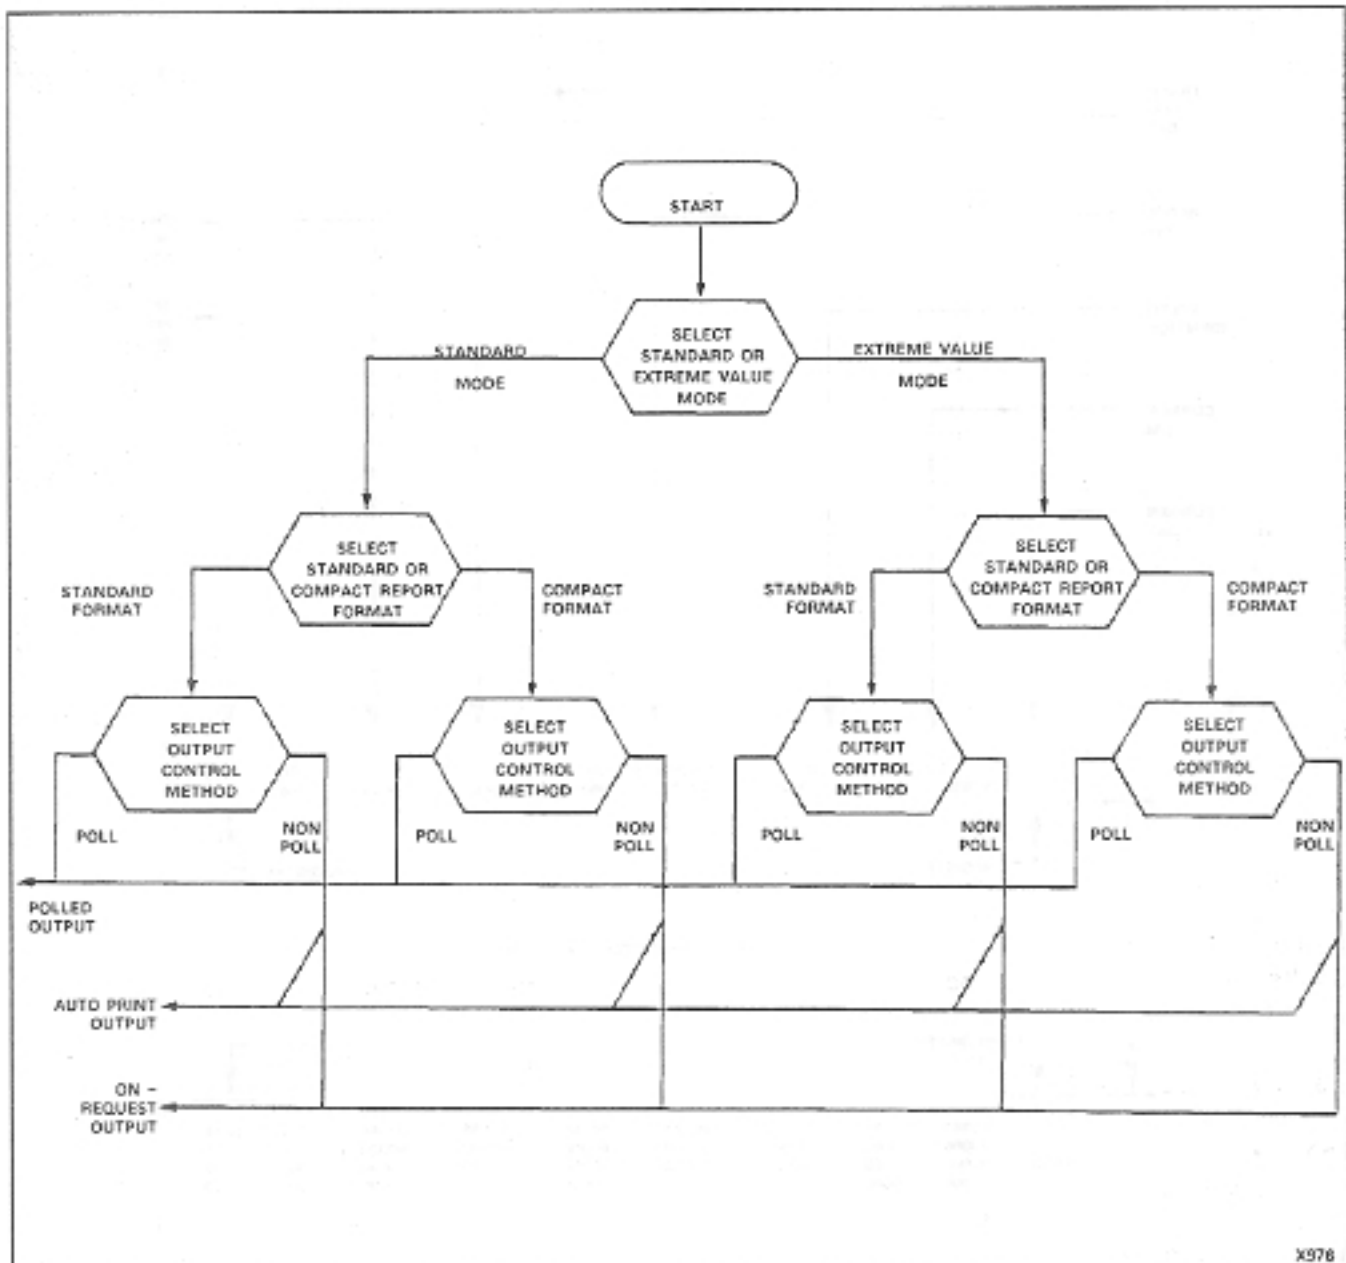
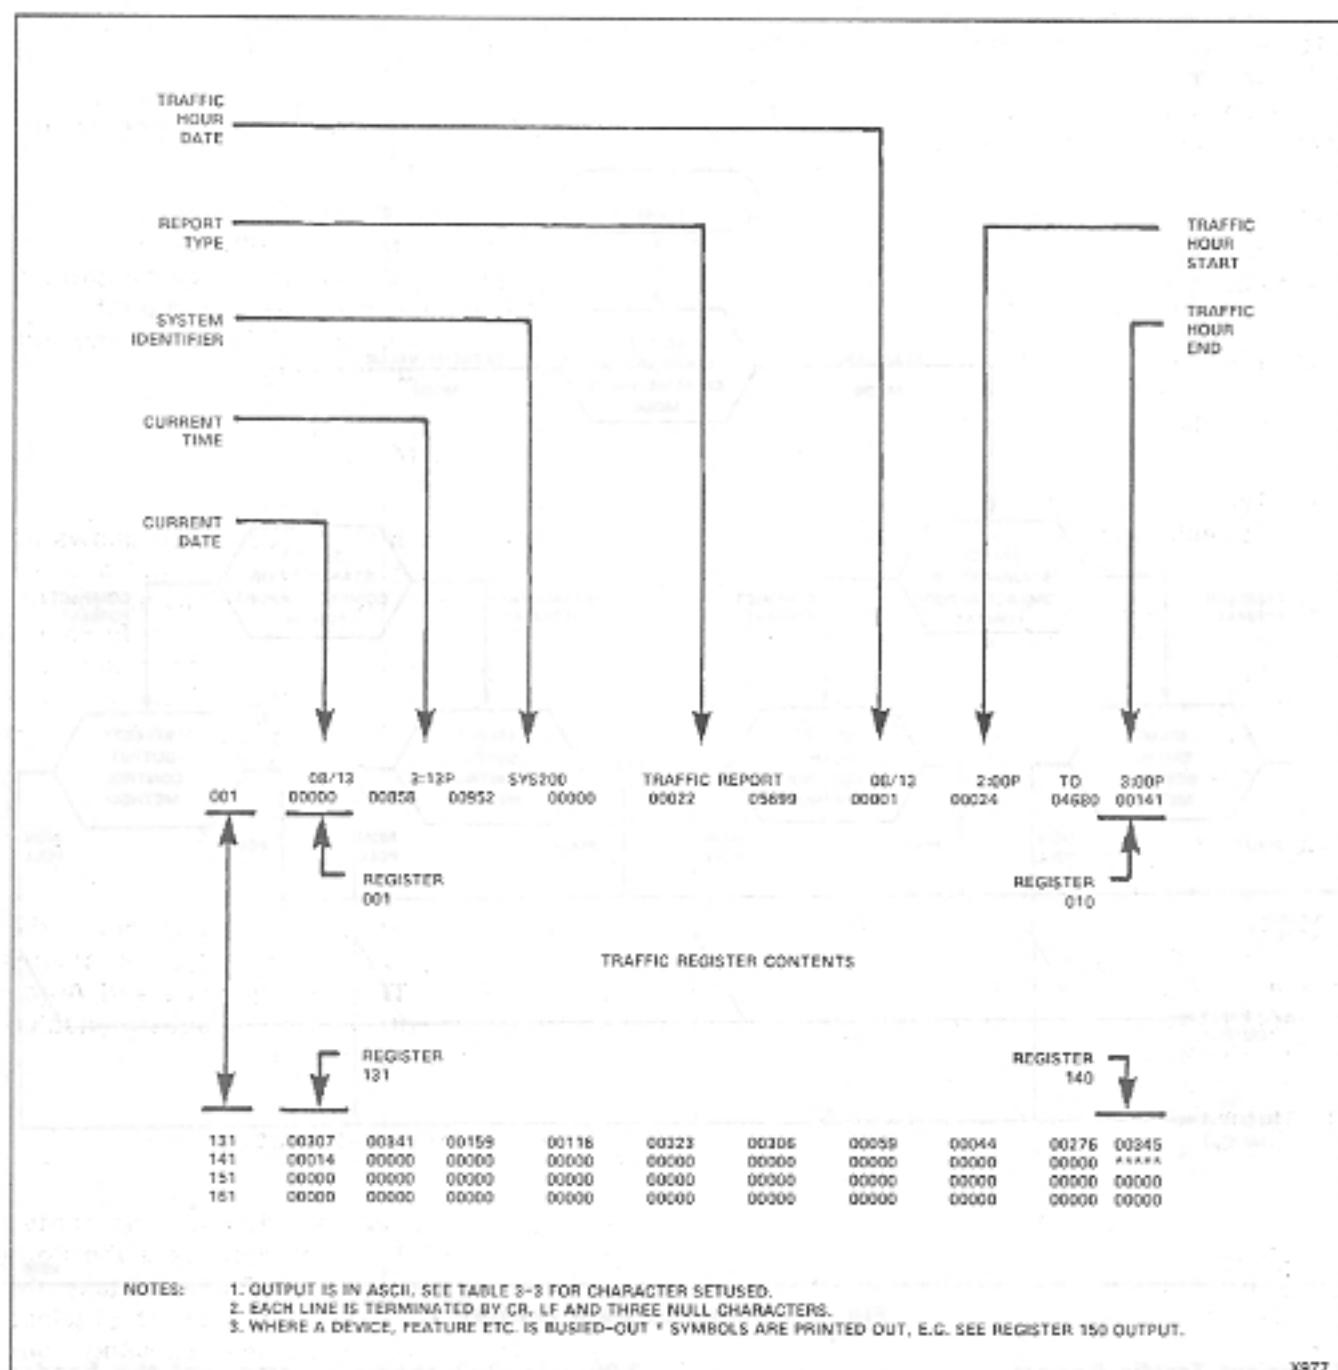

Fig. 3-1 Types of Data Output
Fig. 3-2 Compact Traffic Report
NOTE: If a trunk is "Busied-Out" when it is scanned, the Incoming Usage is reported as "*****" in the Standard Report and as "99999" in the Compact Report (see Fig. 3-1 and Fig. 3-2)
3.01 Traffic data is collected as described in Part 2, and its output is dependent on the particular system options selected and programmed on site. Fig. 3-1 illustrates the results of selecting these options, which are described in the following paragraphs.
3.09 Fig. 3-2 shows a sample of the header, first line and the last four lines of a Compact Traffic Report. Each subsequent line of text prints out the readings for 10 registers each in 5-digit format, commencing at Register 001 and, over 17 lines, accommodating the following information:
4.04 As an alternative to the Polling mode, the hourly printout may be output automatically (Autoprint). The Polling mode and Autoprint mode cannot be simultaneously enabled (see Fig. 3-1 and Table 6-2).
2. See Table 3-1 for example of Standard Report, and Fig. 3-2 for Compact Report example.
Note: See Table 3-3 for Header Detail and Fig. 3-2 for example of report.